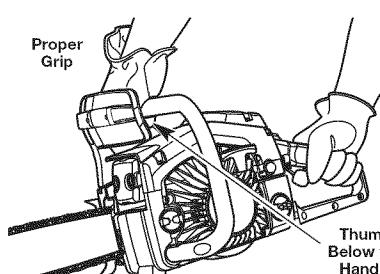
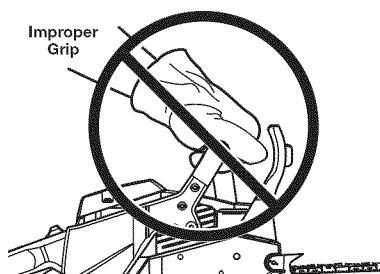

Fig. 12
Fig. 13
- Maintain a proper grip on the saw whenever the engine is running. The fingers should encircle the handle and the thumb should wrap under the handle (Fig. 12). This grip is least likely to be broken by a kickback or other sudden reaction of the saw. Any grip in which the thumb and fingers are on the same side of the handle is dangerous because a slight kick of the saw can cause loss of control (Fig. 13).